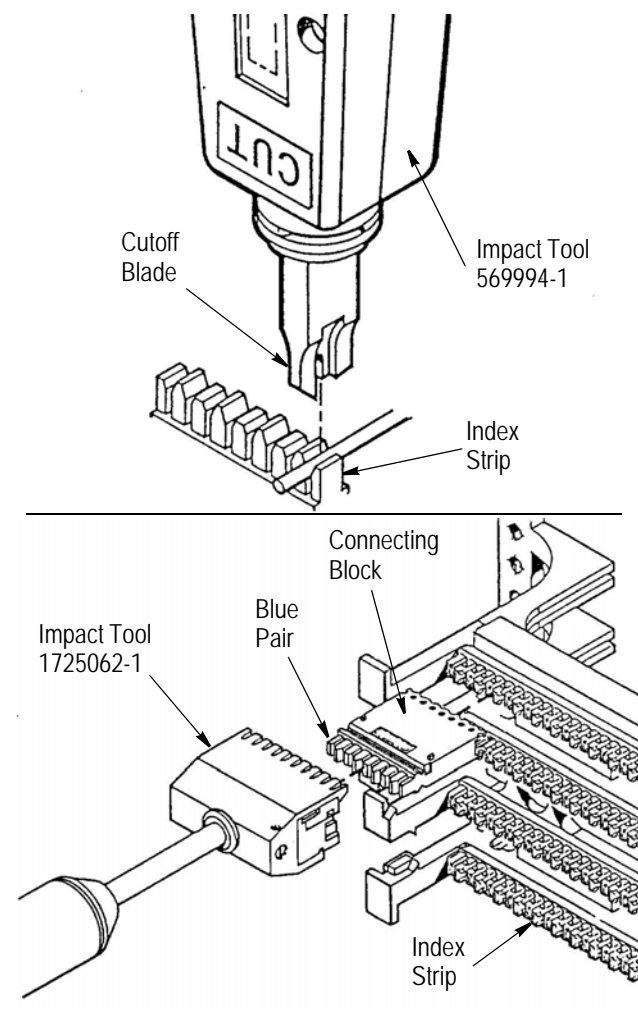

Figure 3
3. Use Impact Tool 569994-1 or an equivalent to seat each conductor and shear off conductor end (see Figure 3).
4. After all index strips have been wired and trimmed, orient first connecting block at left end of top row and seat using Impact Tool 1725062-1. See Figure 3. Working from left to right, orient and seat each additional block in row. Complete remaining rows following same procedure.
7. Use Impact Tool 569994-1, or an equivalent, to seat each conductor and shear off conductor end. (see Figure 3).
After all index strips have been wired and trimmed, orient first connecting block at left end of top row using Impact Tool 1725062-1 (see Figure 3). Working from left to right, orient and seat each additional block in row. Complete remaining rows following same procedure.